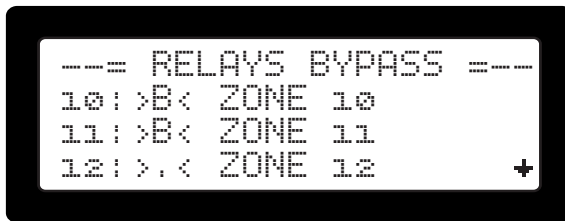

Figure 14. Bypassed relays activation screen
- Press **<2>** to select menu item **[2. Bypass Zones]**: The list with all available zones is displayed (see Figure 14).